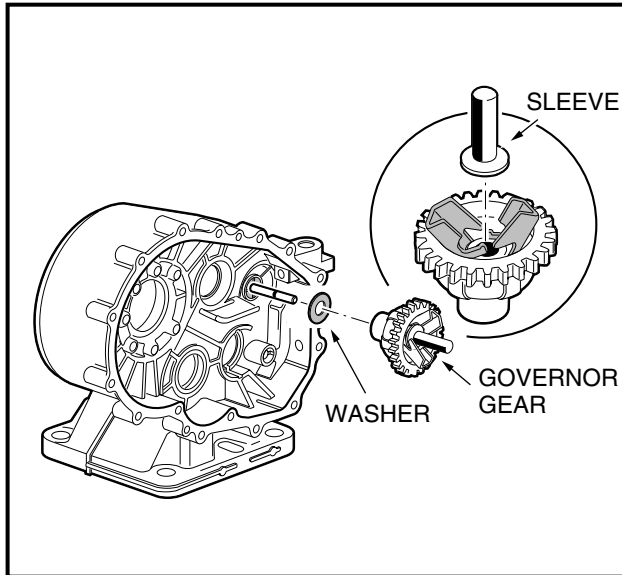
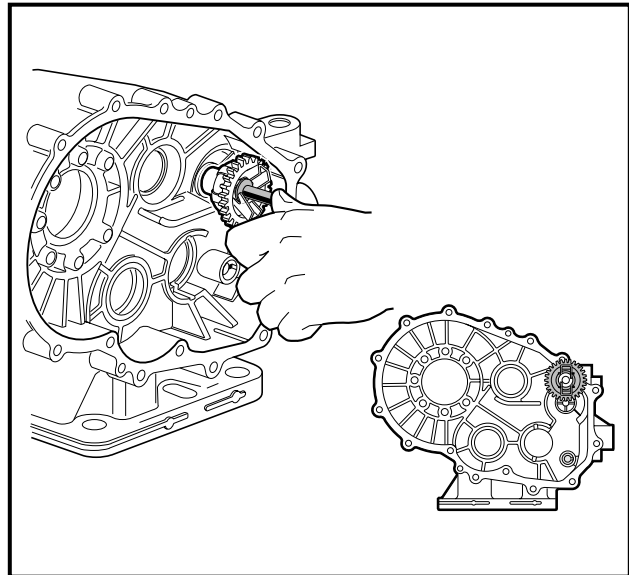

Figure 19-45 Position Governor Gear
Figure 19-46 Install Governor Gear
4. Install the washer, governor gear, and sleeve together onto the governor shaft (**Figure 19-45, Page 19-23**). Make sure the sleeve is properly positioned within the flyweight brackets of the gear (**Figure 19-46, Page 19-23**), then push them onto the shaft until the gear snaps into the groove on the shaft.